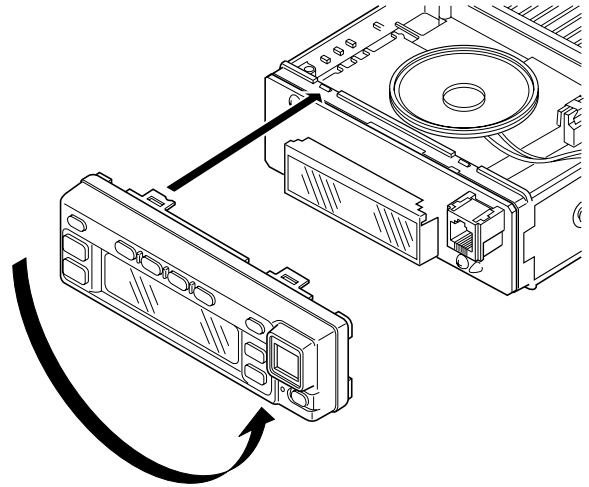

Fig. 7 / 图 7
6. Rotate the control panel 180 degrees and mount it on the transceiver. Refit the two halves of the case to complete installation. (Fig. 7)
6. 将控制面板旋转180度并且装配在车台机上。重新将两部分机壳装好并完成安装。(图7)